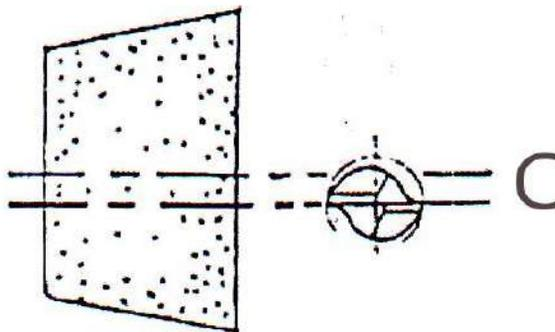

Fig.11
- (4) Adjust Grinding wheel's center to be on the same level of cutter's center .Grinding 1st Relief Angle the grinding wheel center should be lifted up by a short amount of distance-C as shown in Figure 11. Please refer to 3-4 (C) for calculation method of C.